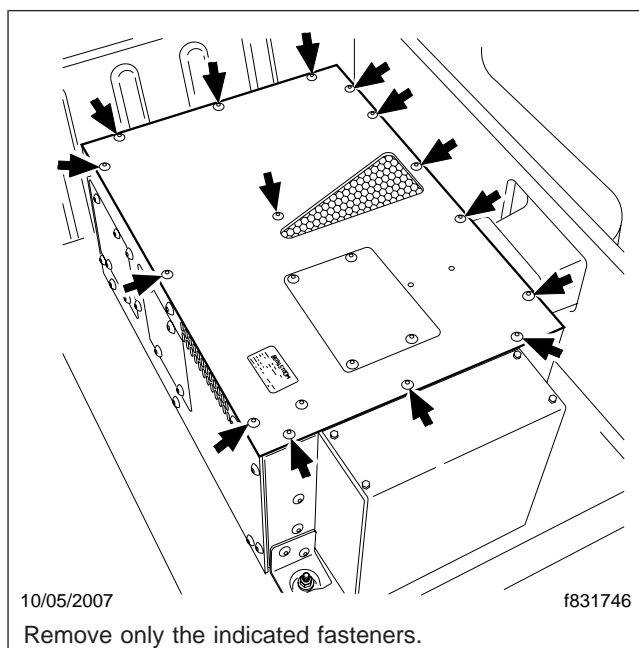

Fig. 1, Top Access Panel
3. Remove the top panel. See Fig. 1.